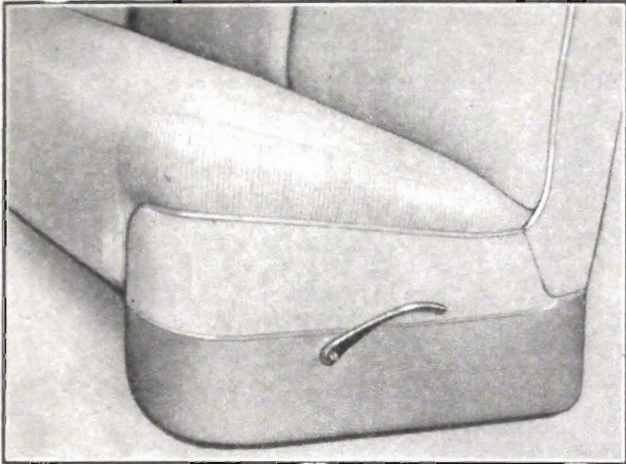

Fig. 1-48. Front Seat Cushion
- The front seat cushion is removable on all models. See Fig. 1-48. This permits easy access to the underseat heater for inspection purposes without the necessity of removing the entire seat assembly.